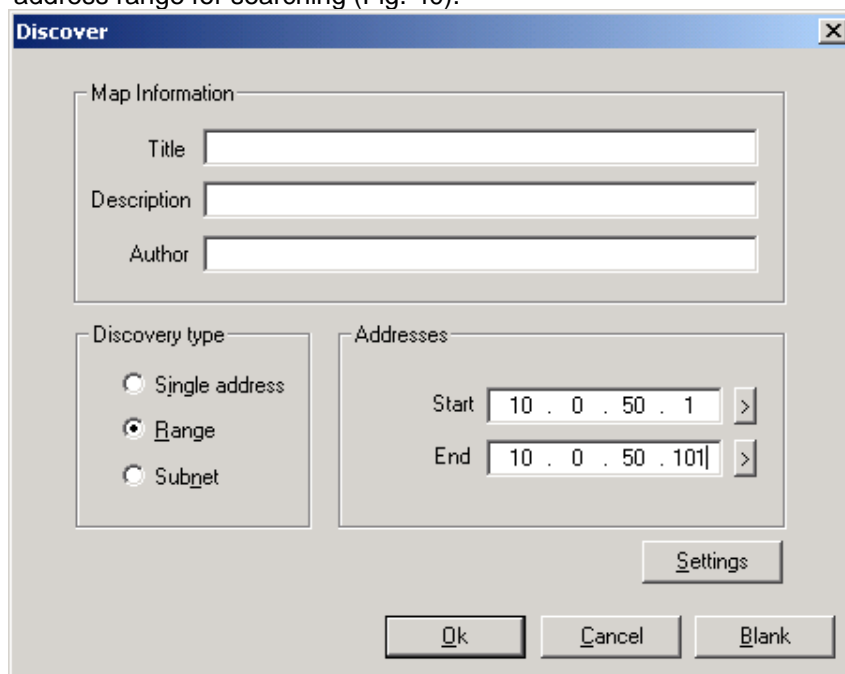

Fig. 40. IP address searching
1. Click on the  button to open a new file. The following screen shall appear, on **Addresses field**, Enter in the IP address range for searching (Fig. 40).